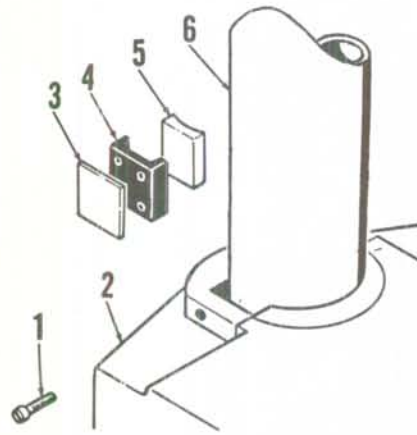

Fig. Mc5-21 — Exploded view of steering friction adjusting mechanism used on OX 140.
**STEERING FRICTION.** OX 140 motors are equipped with a steering friction adjustment as shown in Fig. Mc5-21. Adjust the friction until motor steers easily but will maintain a set course.